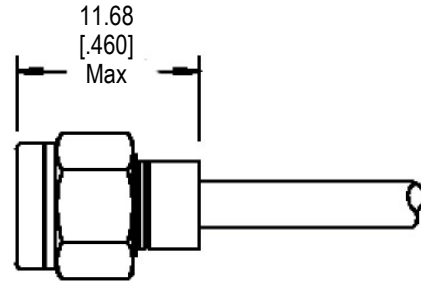

Figure 5
5. Remove the plug from the crimp tool, and inspect the plug according to Figure 5